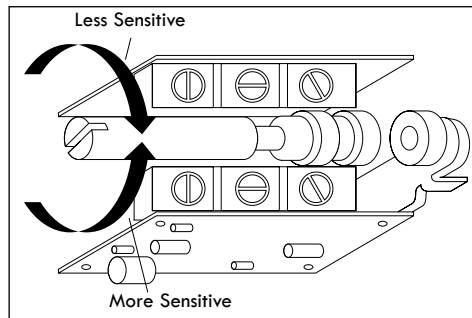

Figure A-140: Sensitivity adjustment
- Start the fan motor. If the vibration switch trips on start-up, allow the fan motor to stop. Turn the sensitivity adjustment 1/4 turn clockwise (see Figure A-140): Depress the reset button and restart the fan motor. Repeat this process until the vibration switch does not trip on start-up.